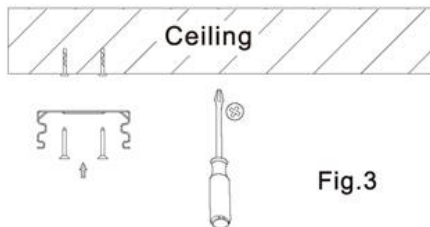

Fig.3
- Step 3: Install the buckle into the plastic expansion. (as Fig.3)